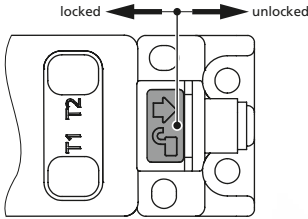
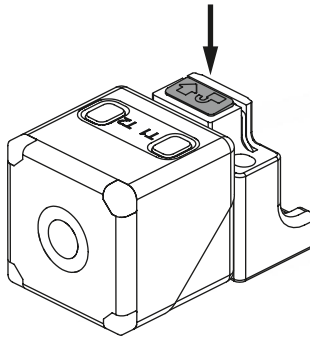

Fig. 6: QuickLock mounting bracket: lock/unlock Sensor
Fig. 7: Remove the sensor
- ➔ Slide the latch (Fig. 6) in the direction of the sensor.
- ➔ Unlock the latch according to Fig. 6 and press down (Fig. 7). The sensor detaches and can be removed.